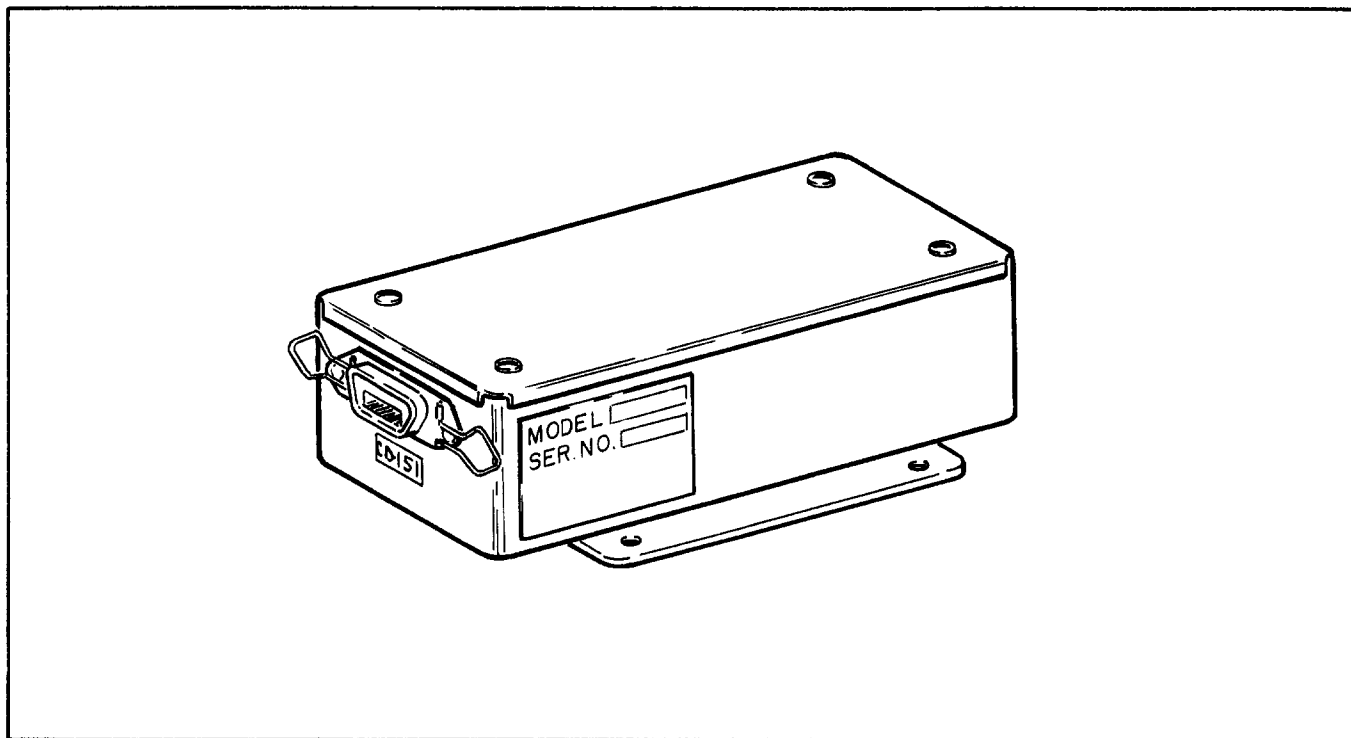

Figure 3-36. NAV Flag Adapter Installation
**3-164. INSTALLATION OF NAV FLAG ADAPTER. (PA-23-250 Six Place, S/N 27-7554001, 7554074 to 7754127; PA-31, S/N 31-7512023 to 7712064; PA-31-350, S/N 31-7552054 to 7752100, 31-7752102 to 7752113 and PA-31P, S/N 31P-7630014 to 7730012) (Refer to Figure 3-36.)**
3-166. INSTALLATION OF NAV FLAG ADAPTER. (PA-32-260, S/N 32-7600001 to 7700017; PA-32-300, S/N 32-7640001 to 7740075; PA-32R-300, S/N 32R-7680001 to 7780350 and PA-34-200T, S/N 34-7670001 to 7770261) (Refer to Figure 3-36.)